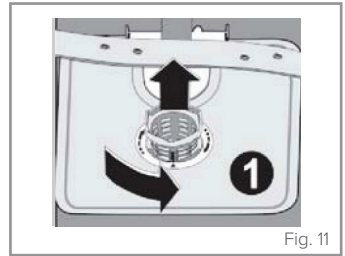

Fig. 11
2. Turn the microfilter anticlockwise and then lift it out (Fig. 11).